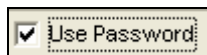

Figure 16.5.4A
- If you want to use a password for this controller click on the **Use Password** box (Figure 16.5.4A).